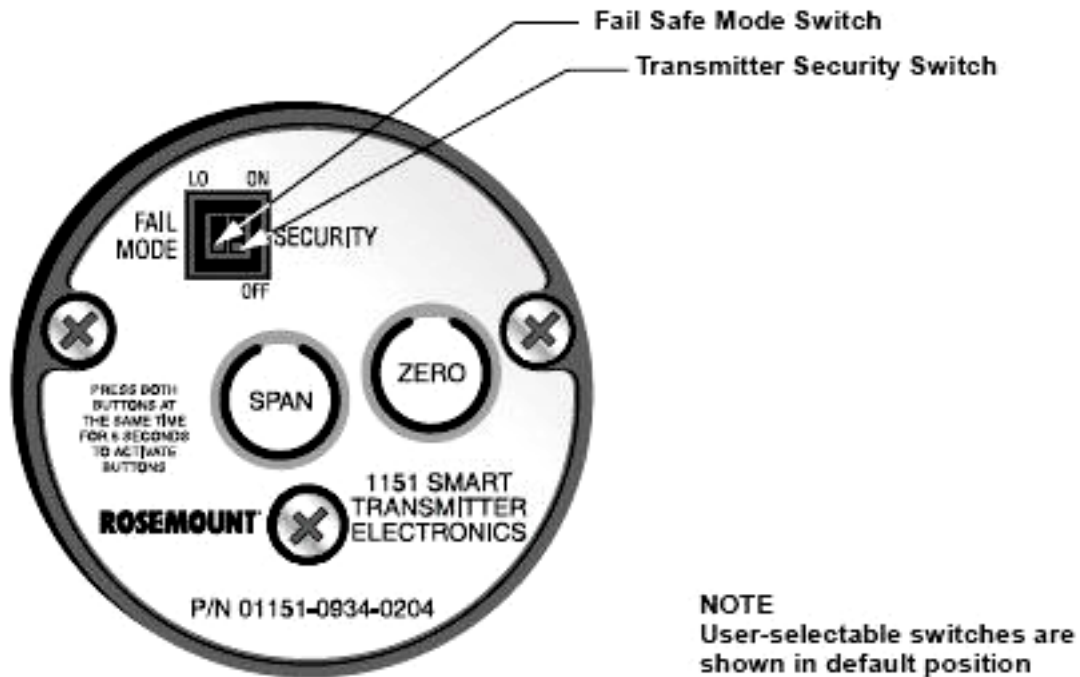

Figure 6 - Hardware Switches
- Figure 6 – Hardware Switches
The Model 1151 Smart Pressure Transmitter contains hardware switches that provide user-selectable operation of the failure mode and transmitter security. The switches are located on the electronics assembly just inside the electronics housing cover, as shown in **Figure 6**.
Once the transmitter has been configured, it may be desirable to protect the configuration data from changes. The electronics assembly is equipped with a switch labeled SECURITY. **Figure 6** shows the switch location on the circuit side of the electronics housing. In the ON position, the switch prevents the accidental or deliberate change of configuration data. To enable the sending of configuration data, simply return the transmitter security switch to the OFF position.